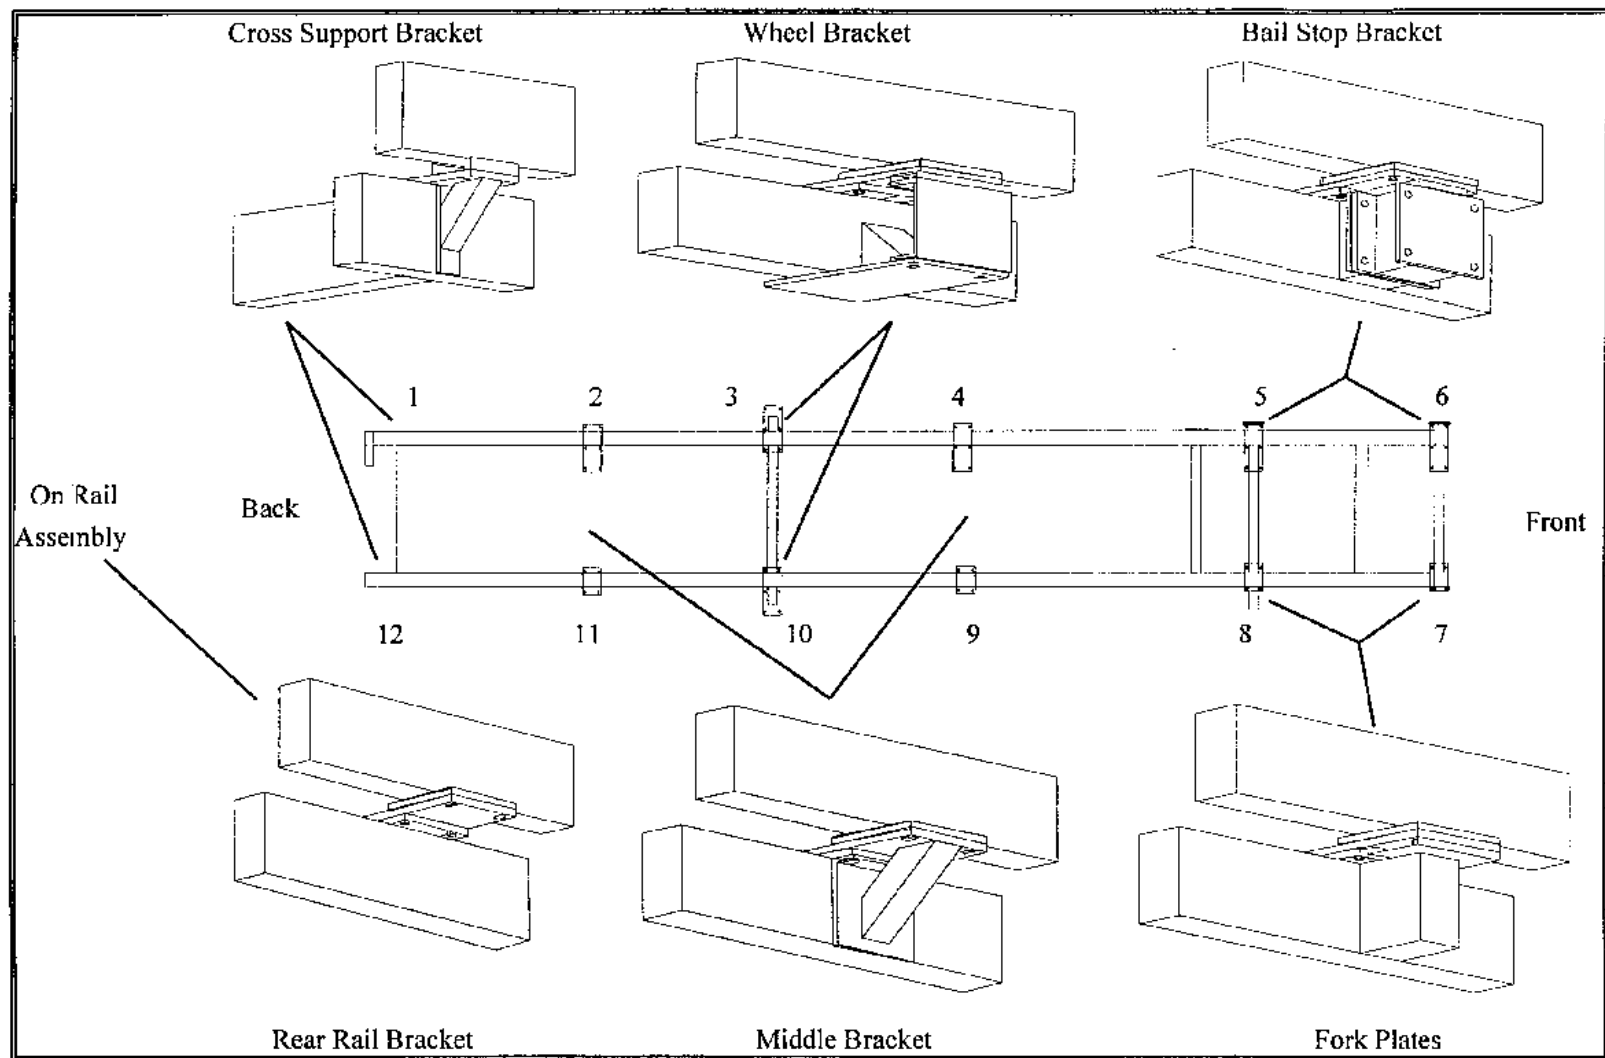

Figure 1 Seven Bale Mover Sub Frame and Extension Brackets
The Bale Mover Extension Kit is an easy add on that increases the width between the carrying rails from 31 inches to 39 inches. The kit is available for the five and seven Bale movers. Modifications involve bolting extension brackets to the main sub frame and the rail assembly. Twelve brackets are included and tagged in the extension kit. Figure 2 shows a description of each bracket and Figure 1 shows the brackets required position on a seven bale mover. Where possible use the existing bolts from the sub main frame and rail assembly to attach the extension kit.
3. Remove bolts from points 1,2,3,4,5,6 (Figure 1) where the rail assembly and the main sub frame are attached. Also unbolt the rear cross support member on the rail assembly (not shown).
5. Bolt the bottom holes of wheel mount bracket using a 5/8" x 2" bolt at point 3 (Figure 1). ● **Note** the orientation of the wheel mount bracket.
6. Bolt the middle brackets to the inside holes of the resting plate with 1/2" x 2" bolts (Points 2 and 4 of Figure 1).
7. Mount the cross support bracket at point 1 (Figure 1). The bracket straddles the cross support member of the main sub frame 1/2" U bolts are inserted from the bottom and nuts are attached from the top. Ensure that the vertical plate is secure against the main sub frame.
- 10.1 Bolt the fork extension plates to point 7 and 8 (Figure 1). These plates rest on the stubs attached to the bale forks. • **Note** the difference between the two bale stop plates. The front plate is 6"wide and the back plate is 7" wide.